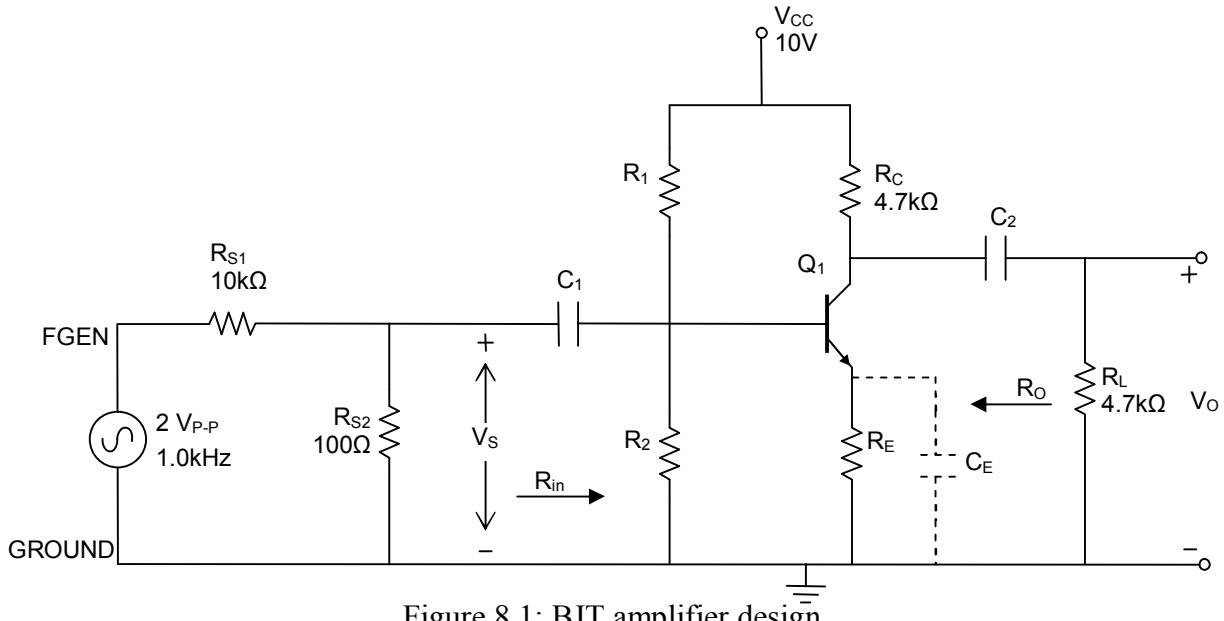

Figure 8.1: BJT amplifier design
3. Design the CE amplifier shown in Figure 8.1 to drive a $4.7\text{k}\Omega$ load using an npn silicon transistor and a power supply voltage of $V_{CC} = 10\text{ V}$ and $R_L = R_C$. The voltage gain of your circuit is to be $A_V = -10$. You should have already used the curve tracer to determine the β and V_{BE} of the transistor you have selected. Your design should include the specification of R_1 , R_2 , R_C , R_E , R_O , V_{CEQ} , I_{CQ} , h_{ie} , and h_{ib} . **In this part of the experiment, C_E is not used.** You must design your amplifier for maximum symmetrical output swing. See **Design Procedure following this section for the equations needed for your design.** Assume that all coupling capacitors are large enough to pass your signal at 1kHz (i.e. $22\mu\text{F}$ or greater). Assume $R_C = R_L$ for your first design.
- b. **Build the circuit in Figure 8.1 but without R_{S1} , R_{S2} , R_L , the capacitors, and function generator**, as was illustrated in Figure 7.2. **Use the resistance values you determined in your pre-lab and set $R_C = 4.7 \text{ K}\Omega$.** You should use the nearest standard resistance values for the resistors R_1 , R_2 , and R_E , even if the design values are non-standard. Attempt to build your circuit using standard values of resistors before you resort to using the decade resistance boxes.
- a. Connect R_{S1} , R_{S2} , R_L , the capacitors, and the function generator to your circuit, as in Figure 8.1. The coupling capacitors need to be large enough to pass an ac signal of 1 KHz (22 μF or greater). In Figure 8.1, the voltage divider using R_{S1} and R_{S2} is an easy way to keep the input voltage swing low enough to keep the transistor from being driven into either saturation or cut-off. After you have built the circuit, check your input and output wave shapes. Take appropriate action if your output wave shape is distorted from a sine wave.
2. Build circuit in Figure 8.1 using resistors calculated in your design.